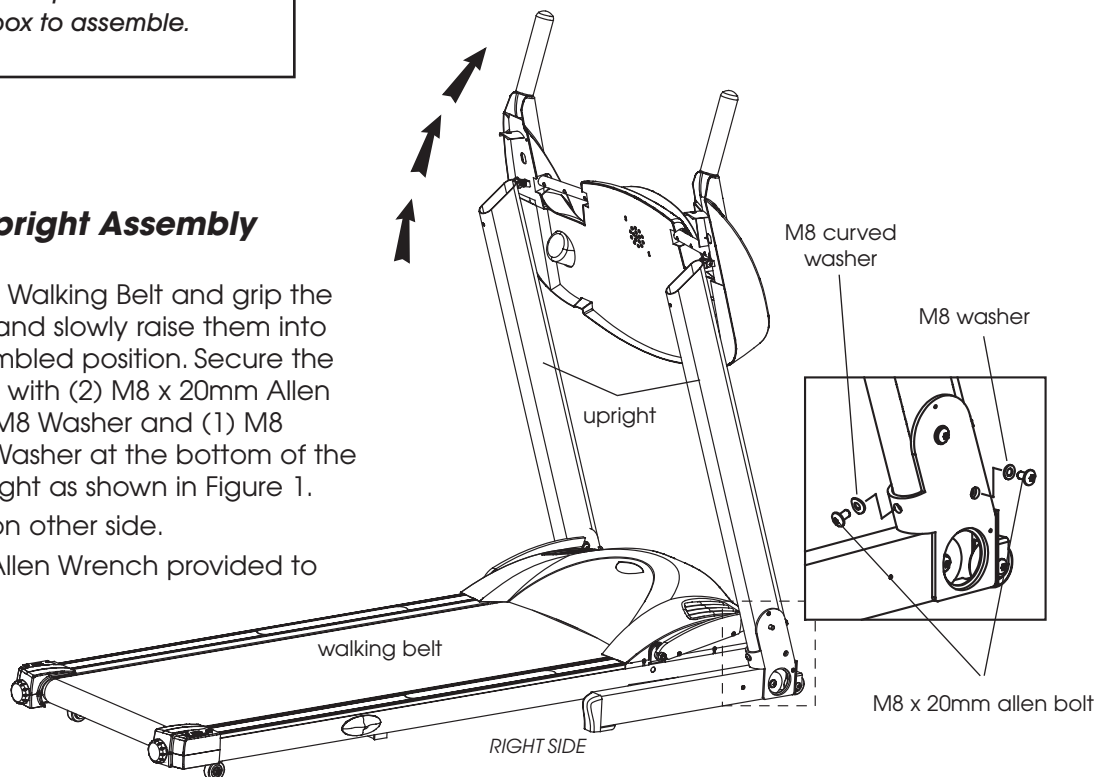

Figure 1 - Install Uprights
- a) Stand on Walking Belt and grip the uprights and slowly raise them into the assembled position. Secure the right side with (2) M8 x 20mm Allen Bolts (1) M8 Washer and (1) M8 Curved Washer at the bottom of the right Upright as shown in Figure 1. Repeat on other side.